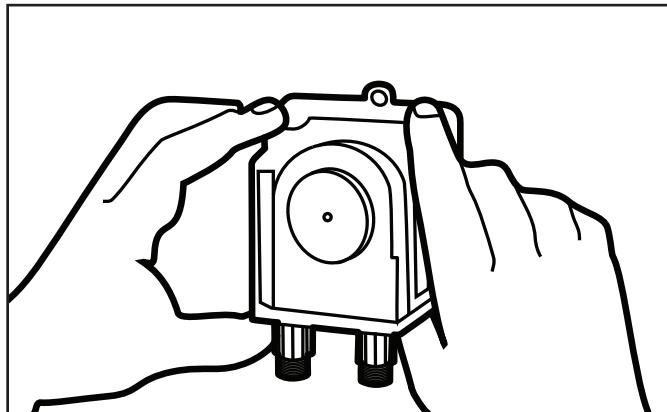

Figure 21. Align the Cover
- Align tube housing cover with track and slide over tube until fully closed. See Figure 21.